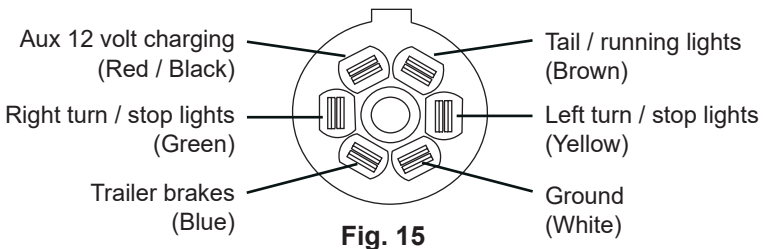

**Fig. 14**
6. If the spirit level bubble was toward the vehicle (Fig. 14), the coupler is set too low. If the bubble was toward the trailer, the coupler is set too high.